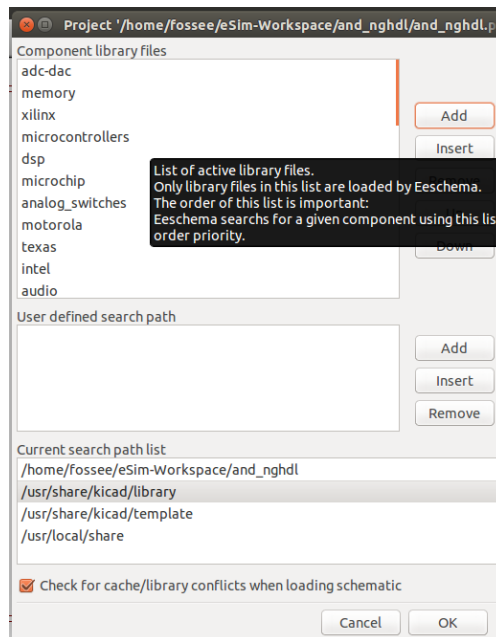
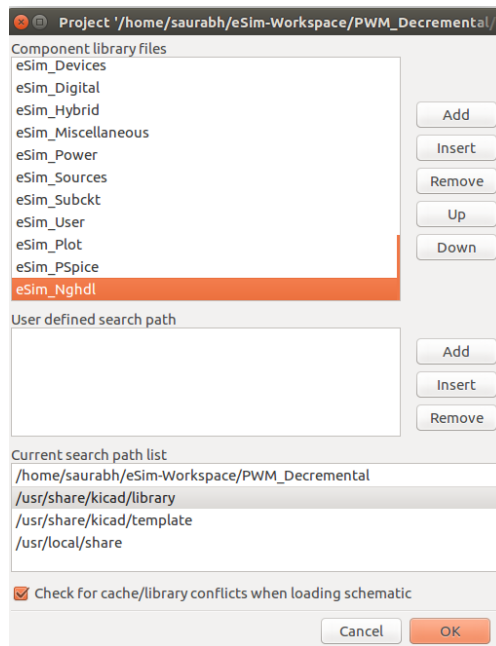

Figure 9.6: Adding the digital model library in KiCad
Figure 9.7: Selection of library
2. After successful upload of the model using the VHDL code, you can create the schematic of your design by clicking on **Open Schematic** button on the left pane of the eSim window. Then go to **Preferences** option on top of the schematic editor window and click on **Component Libraries** to add the library `eSim_Nghdl.lib` in KiCad. Following window will appear as shown in Fig. 9.6, where you will have to
click on *Add* button and select the eSim.Nghdl library. Refer Fig. 9.6 and Fig. 9.7.